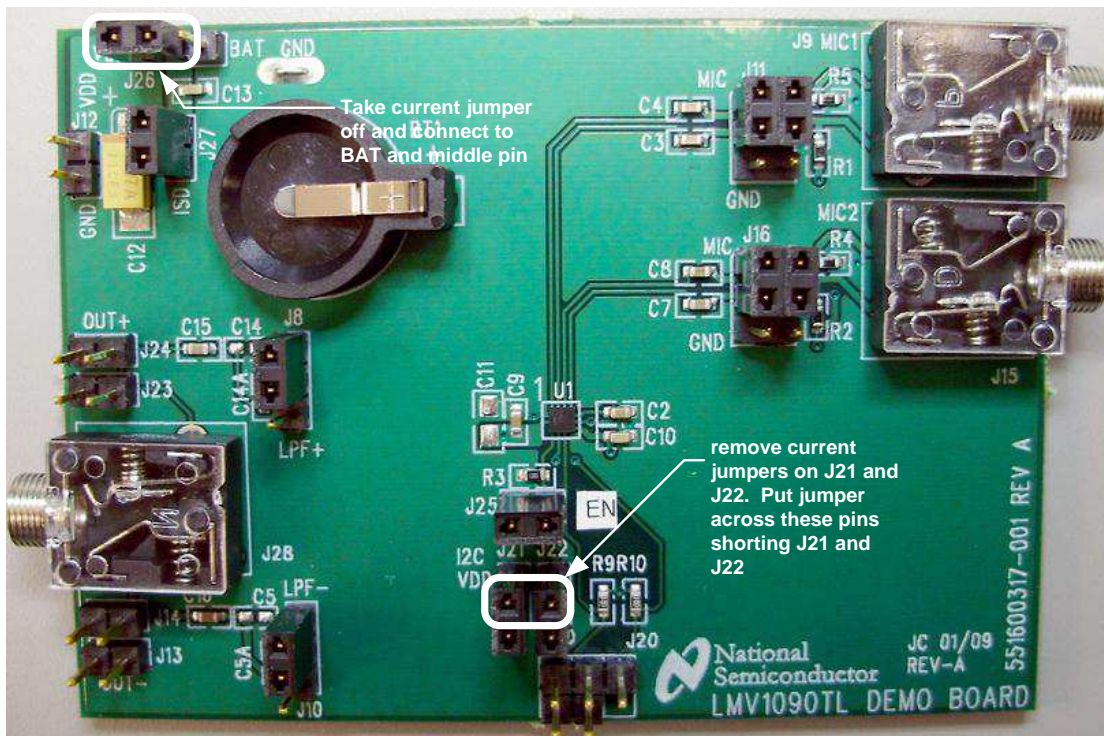

Figure 4. Battery Power Supply
- Using a small battery placed in battery holder mounted on the PCB. See Figure 4. For a limited time, the demo board can be operated from the board battery (CR1220 placed in the battery holder BT1). To operate the board using a battery, the following jumpers: J26, J21, and J22 must be configured as shown in Figure 4.